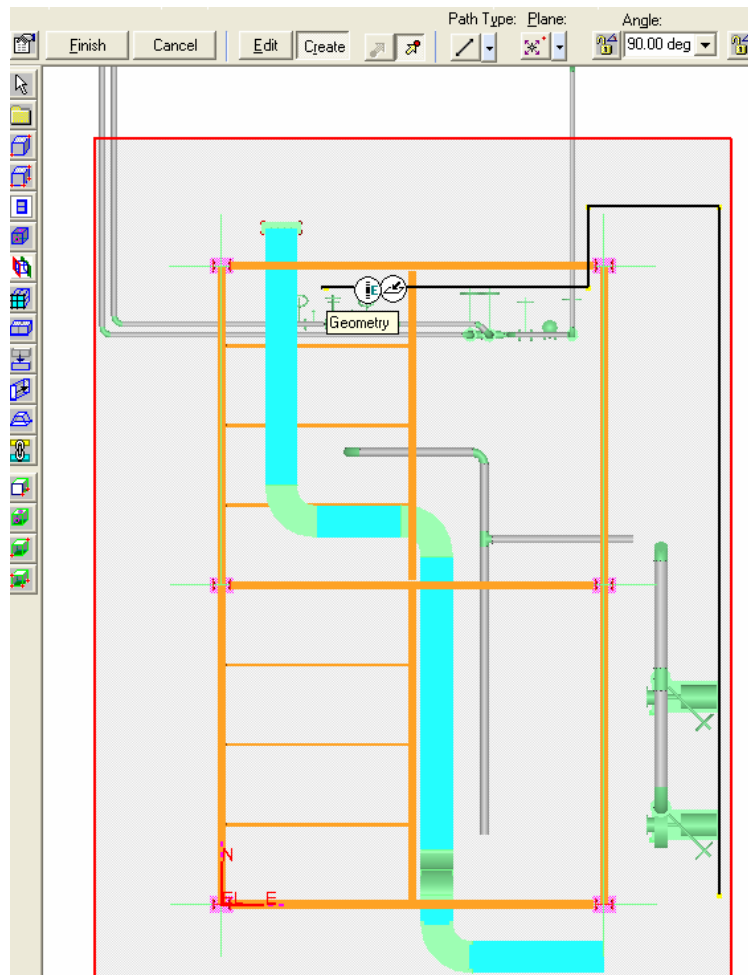

Figure 11: Defining Path of Volume
7. The **Place Volume Along Path** ribbon displays. Sketch the access way path, as shown in Figure 11.